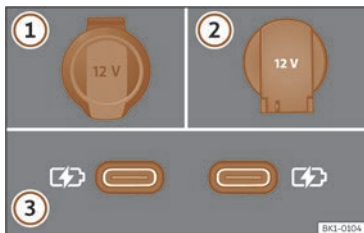

Fig. 161 Vehicle 12 volt socket.
>>> Fig. 161
Depending on the equipment and the country, the vehicle may also have USB connections **exclusively for charging or as a power socket** >>> Fig. 161 ③.